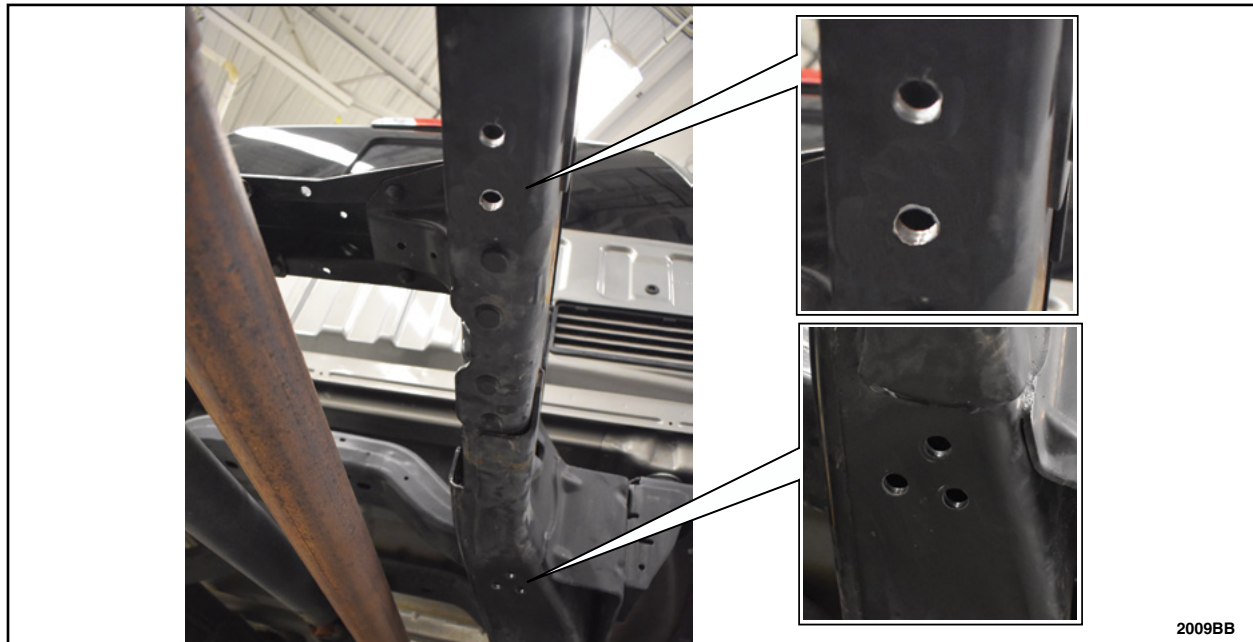

FIGURE 24
4. Using a drill (set to the bits recommended drill speed) and a 15mm Rotabroach bit, such as the Hougen 15mm x 25mm Deep High Speed Steel Annular Cutter and a Rotabroach Arbor, drill the five (5) holes for Non-60CA and the four (4) holes for the 60CA that were just center punched in the previous Step. See Figure 24.